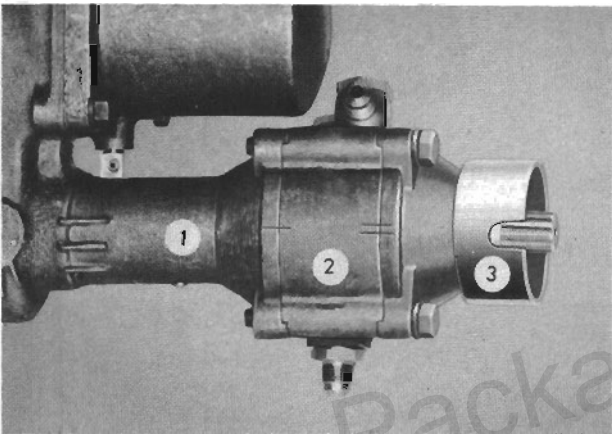

FIG. 59
Using a suitable drift, drive out the coupling retaining pin and slip the coupling off the splines of the worm shaft. Mark the valve body cover (3, Fig. 59), valve body (2), and housing (1). Make a double mark at the cover end of the valve body to assure proper reassembly. Remove the valve cover retaining screws and remove the valve cover and O-ring seal. Discard the seal.